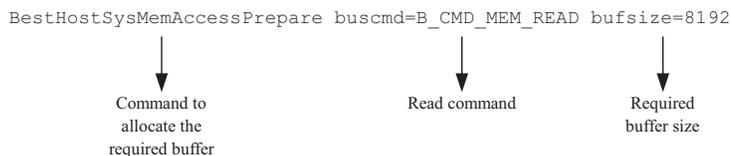

Figure 5.
2. Allocate the required buffer in the testcard's data memory by entering the following command line, fig 5: